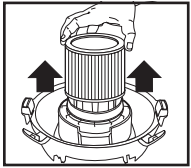

FIGURE 18
22. Slide the cartridge filter off the lid cage. **FIGURE 18.**